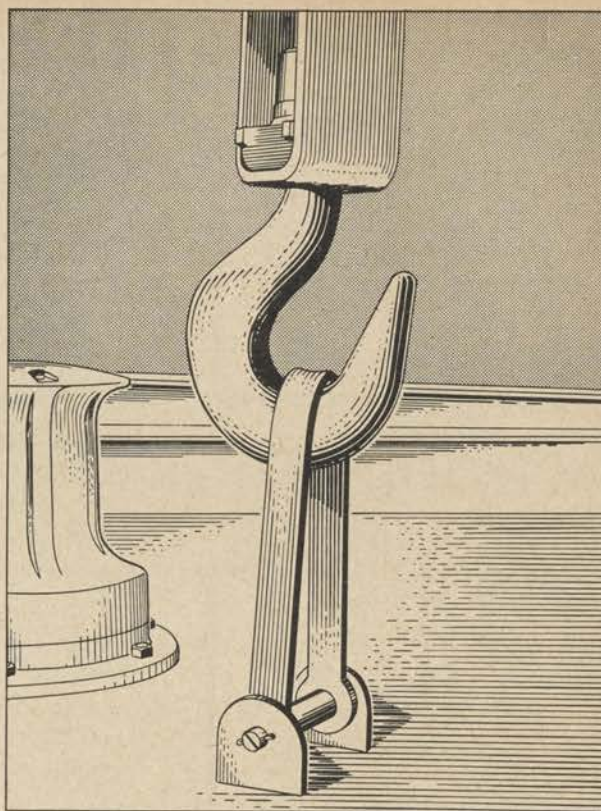

Figure 74. Main block hook in safety position.
b. **STOPPING HOIST.** To shut down for a period of 8 hours or longer, swing the boom to the barge center line, raise it slightly above 45°, lower the main hook and engage it in the safety position. (See fig. 74.) Hoist the whip hook to a position 5 feet below the boom end.